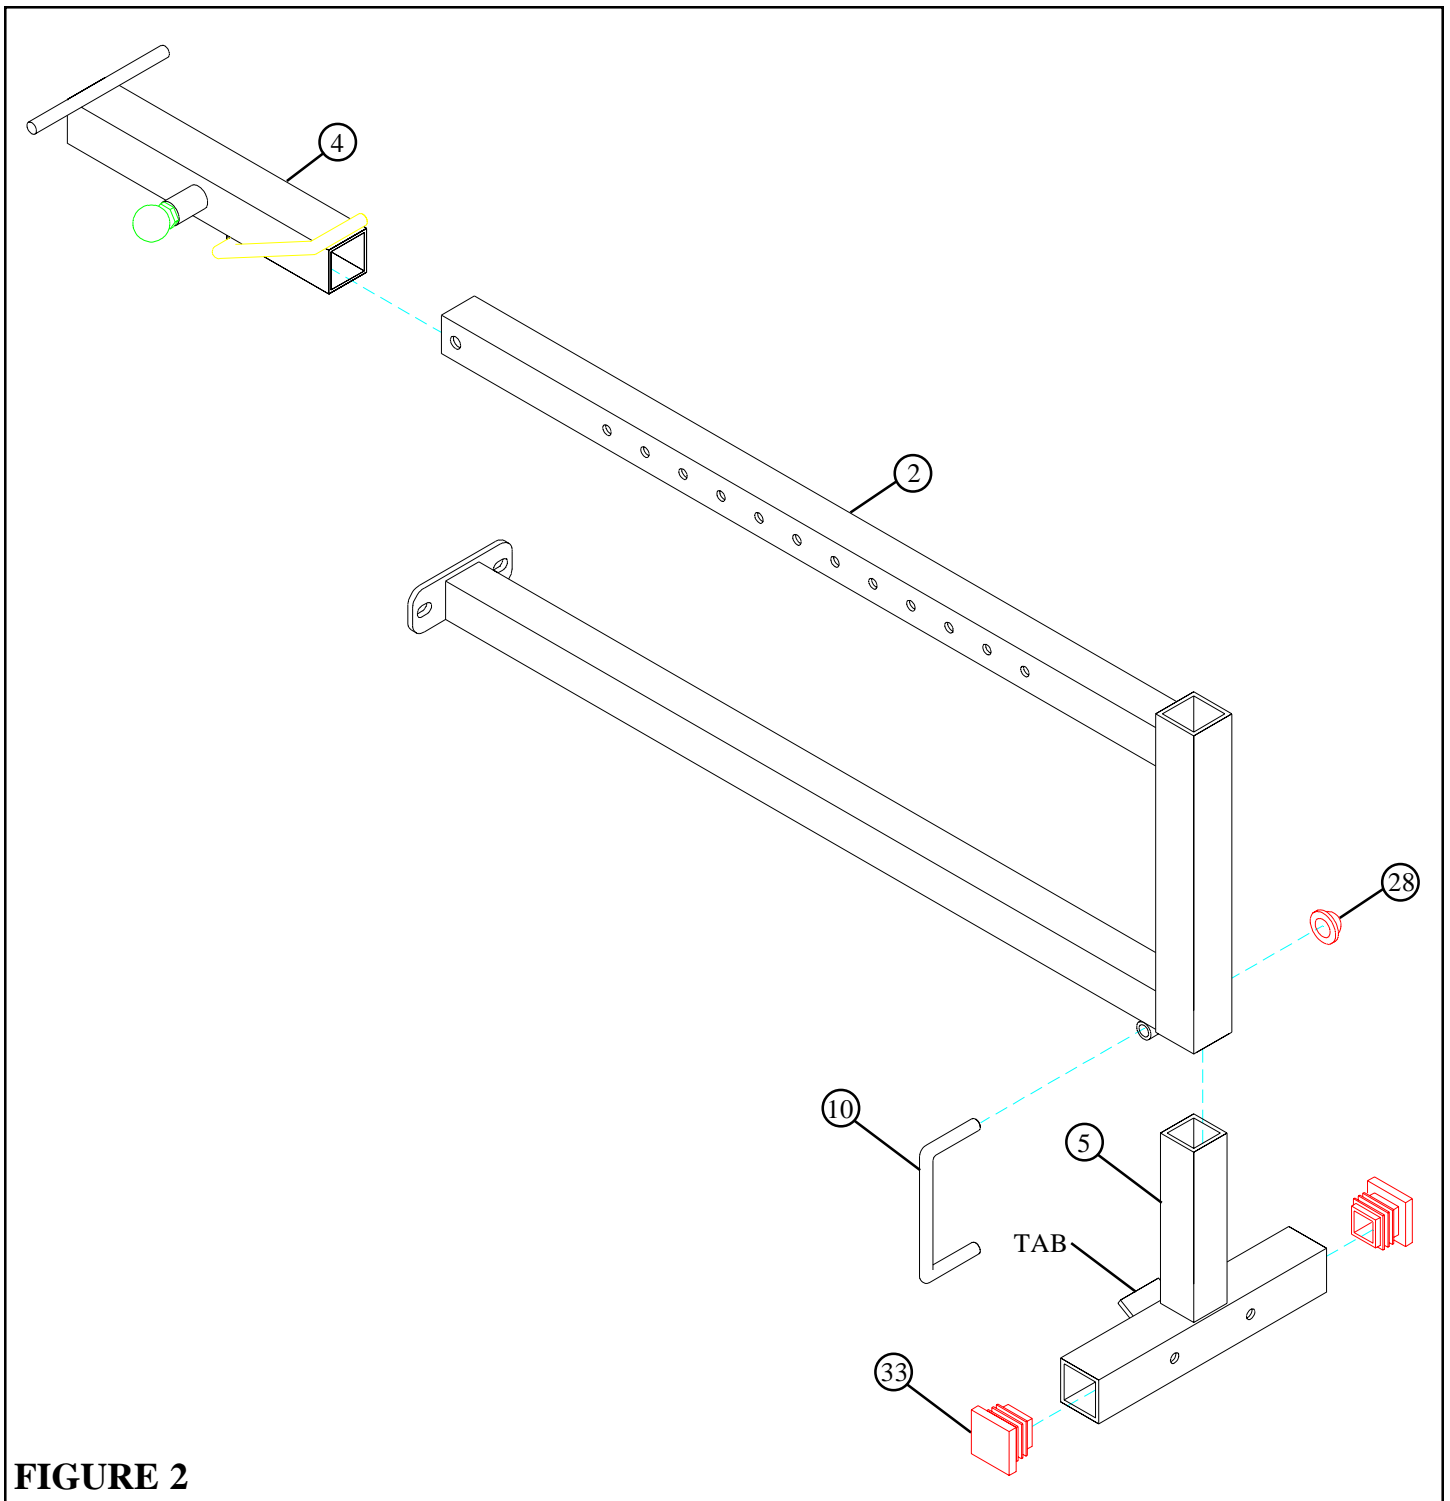

**FIGURE 1**
- Attach eight PARAGLIDE STRIPS (31) to the WOLFF SLEEVE (4) (FOUR ON EACH END) as shown in FIGURE 1 using the following steps:
- Insert one U-PIN (10) through the BUSHING of the WOLFF SLEEVE (4) and attach one PAL NUT (28) to the end of the U-PIN (10) as shown in FIGURE 1.
- **SECURELY** assemble one 3/8" SPRING PIN ASSEMBLY (25) to the SPRING PIN HOUSING on the WOLFF SLEEVE (4) as shown in FIGURE 1. (**!!! IMPORTANT !!! TIGHTEN THE NUT OF THE SPRING PIN ASSEMBLY SECURELY**)